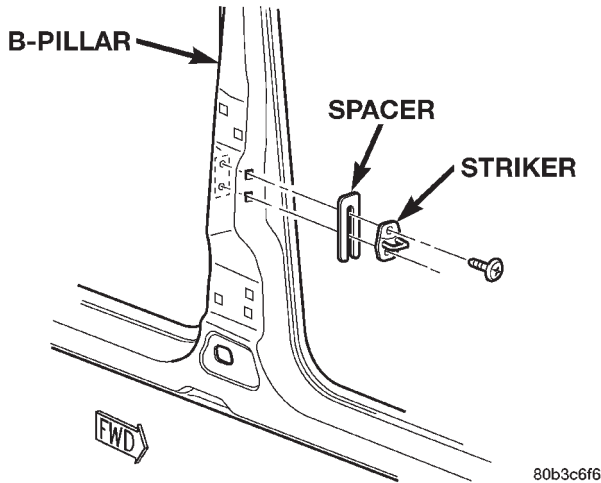

Fig. 23 Front Door Latch Striker
- (1) Remove screws attaching striker to B-pillar.
- (2) Separate striker and spacer from B-pillar (Fig. 23).